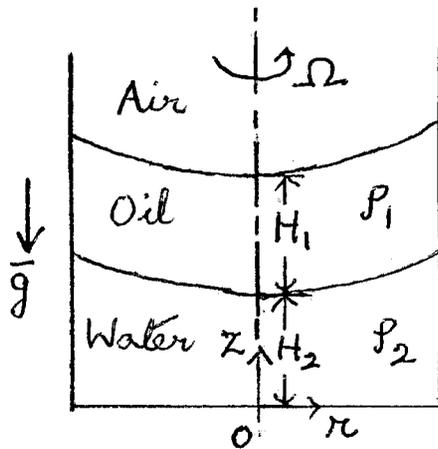

Figure 1 (for Q1)
1. A cylindrical glass beaker is partially filled with two immiscible liquids, a layer of water below and a layer of oil on top. The density,  $\rho_2$ , of water is greater than the density,  $\rho_1$ , of the oil. The axis of the cylindrical beaker is vertical. The top of the beaker is open to the atmosphere. The beaker and its contents are rotated about the vertical axis at a constant angular speed,  $\Omega$ , and the liquids eventually rotate as rigid bodies. The free surface of the oil (that is, the oil-air interface) and the oil-water interface are observed to reach a curved shape, as shown in figure 1, the respective layers of oil and water having the depths  $H_1$  and  $H_2$  at the centerline of the cylindrical beaker. Surface tension effects may be neglected.